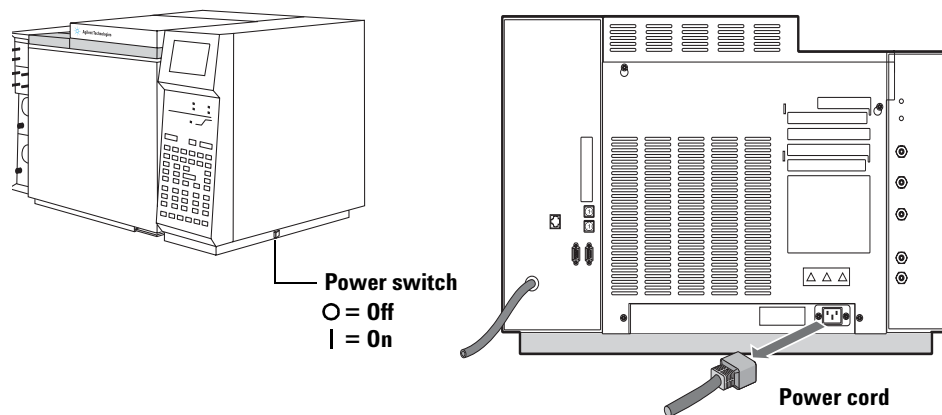

Figure 2 Power switch and power cord
- 1 Switch off power to the GC and disconnect its power cord (Figure 2).